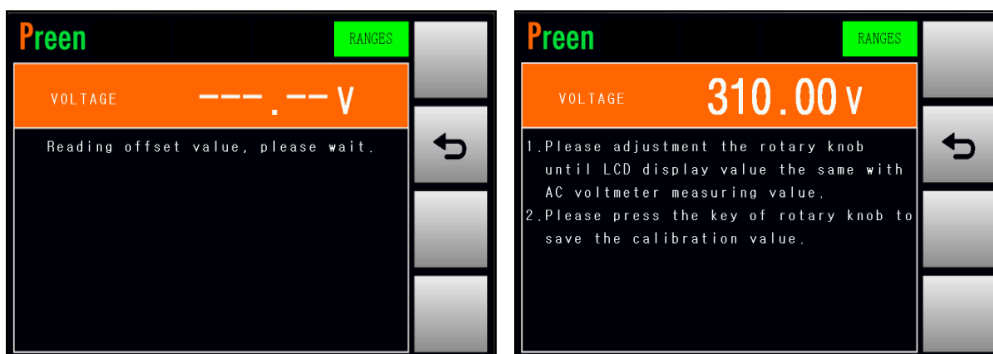

Figure 4.6 Enable the calibration of the HI-Range voltage 310V
3. Press the output & reset button on the front panel to enable the calibration of the HI-Range voltage 310V (refer to Figure 4.6), and then the product will start to output the voltage which is closed to 310V.